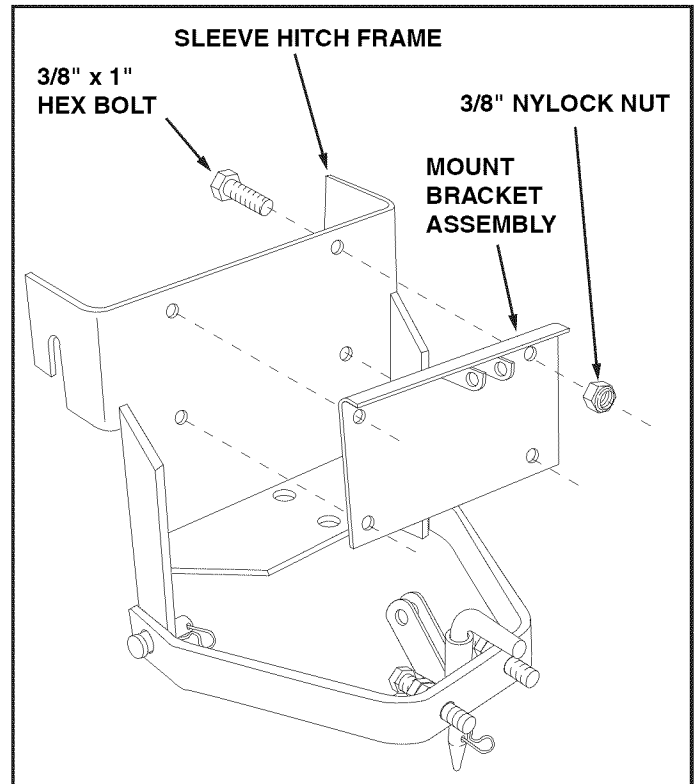

FIGURE 2
- Attach the mount bracket assembly to the sleeve hitch frame using four 3/8" x 1" hex bolts and 3/8" nylock hex nuts. See figure 2.